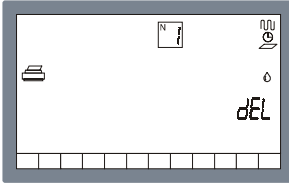

Fig.12
N.B.: the counts relative to the symbols which are lit up are reset (in the example in fig. 12, the space travelled, time worked, surface area treated and liquid distributed counts are reset). To change count, press **F2**.